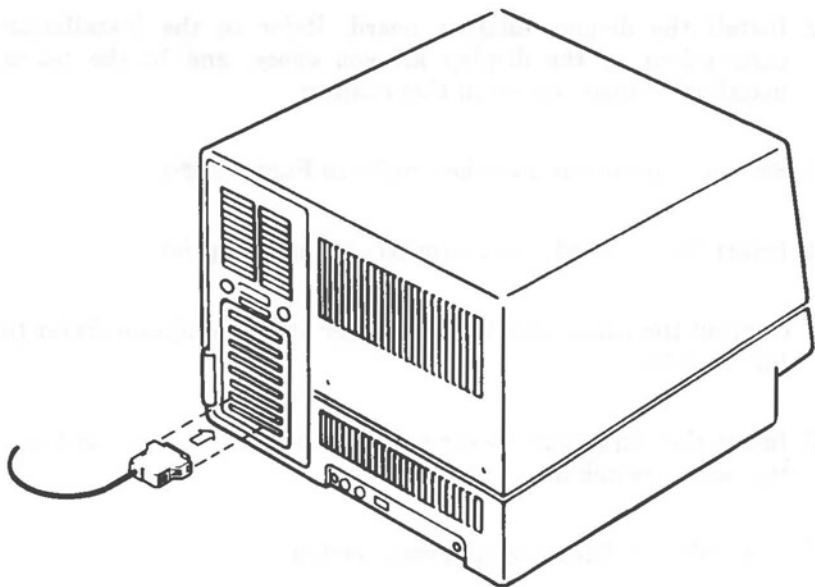

Figure 3-30 Display Cable Connections
5. Connect the video cable to the adapter on the computer (refer to Figure 3-30).